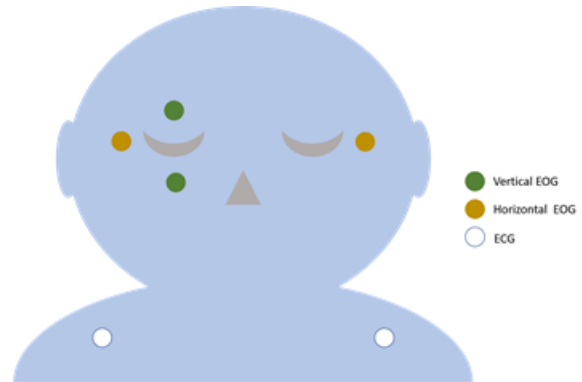

Figure 5: EOG and ECG electrode placement.
- **EOG:** 4 electrodes, one on each side of the eyes (horizontal) and one each above and below the subject right eye (vertical), see Figure 5. Note, this could also be the left eye if the plugs for the electrodes are on the left side of the MEG system.